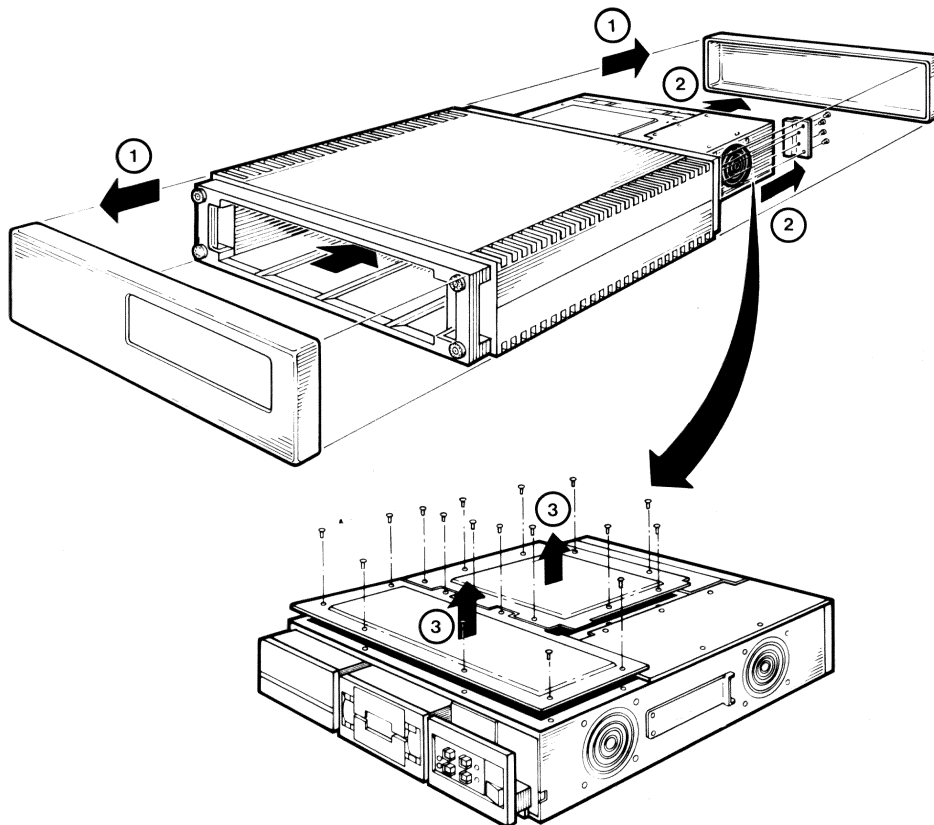

Figure 6-12 Backplane Removal (Steps 1-3)
3. Remove both the subsystem storage cover and the Q22-Bus module cover. (Figure 6-12)